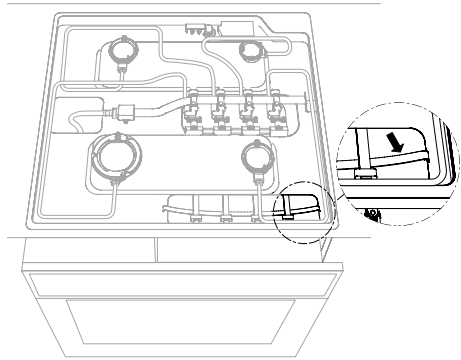

fig. 9
- Remove the protective devices that secure the cardan joints during transport (see Figure 9).